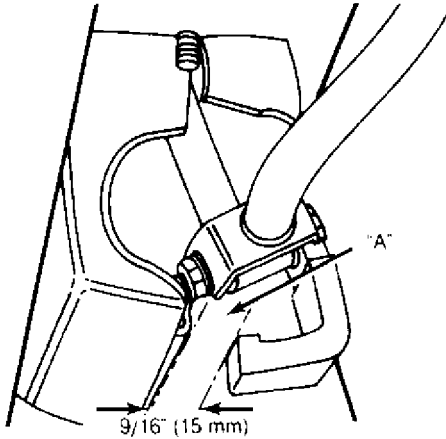

Fig. 6: Adjusting Scirocco Shift Rod End
2) Adjust shift rod end so distance "A" is 9/16" (15 mm). See Fig. 6. Tighten shift rod clamp to 14 ft. lbs. (20 N.m). If shift linkage is spongy or jamming after adjustment, change distance "A" to 1/2" (13 mm). If shift linkage will not stay adjusted, install a new clamp bolt and lock nut.